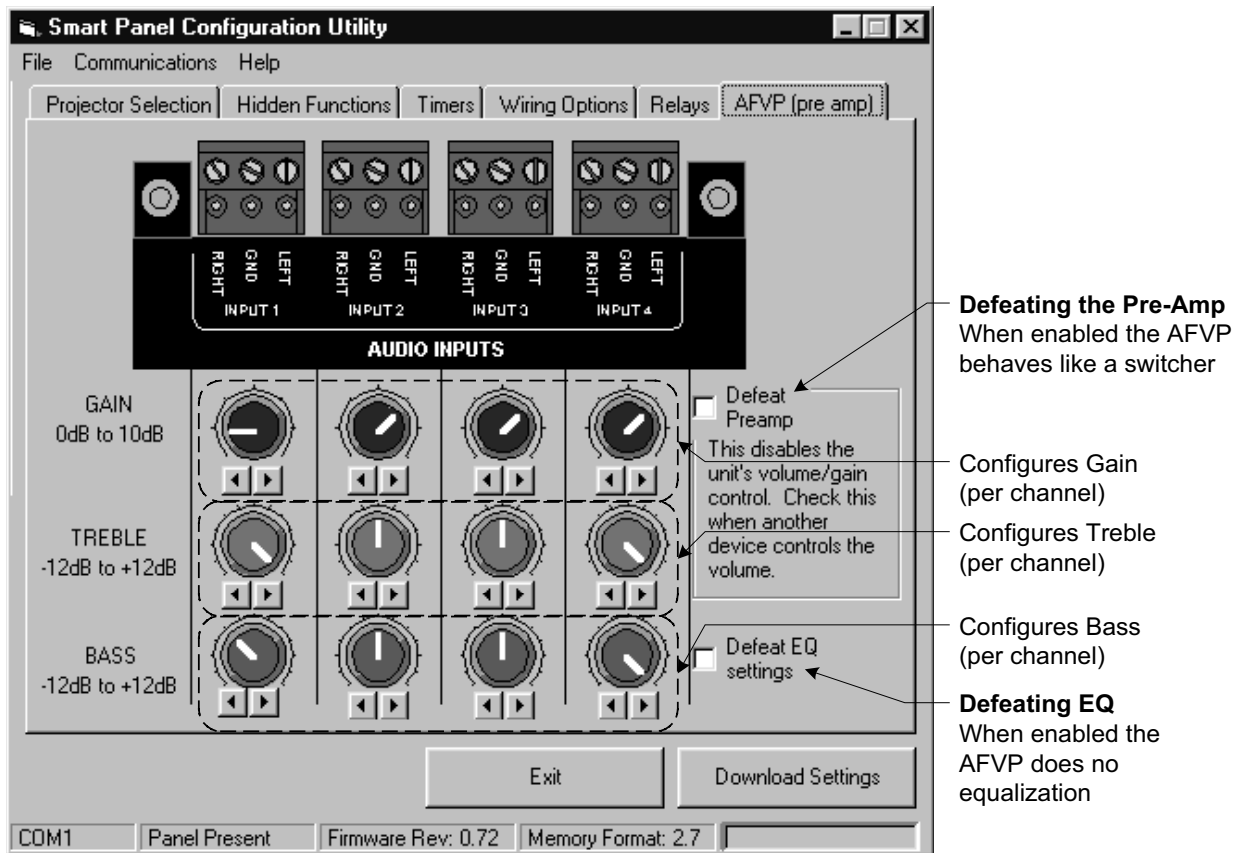

Figure 17: Configuring the Audio Follow Video Preamp
When the Preamp is installed and connected to the Panel chassis, the **Configuration Utility** tab for the Preamp (labeled **AFVP**) becomes active, as shown in **Figure 17**. The sections that follow describe each of the Preamp's configuration options in detail.
- select the **AFVP** tab. It should appear as in **Figure 17**.
- select the **AFVP** tab. It should appear as in **Figure 17**;